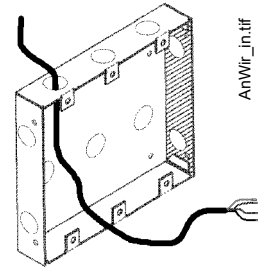

Figure 5.1 Pull Wiring into Enclosure
2. Pull wiring into backbox (Figure 5.1).
Select an appropriate knockout on the enclosure for your wiring to run through and snap it out. Fasten the cabinet or backbox to the wall. Ground the enclosure to a solid metallic ground, such as a grounded cold water pipe. Pull all LCD-160 wiring into the enclosure as illustrated in Figure 5.1. Connect LCD-160 wiring to the removable terminal blocks as specified in “Connecting the RDP Bus” on page 17.